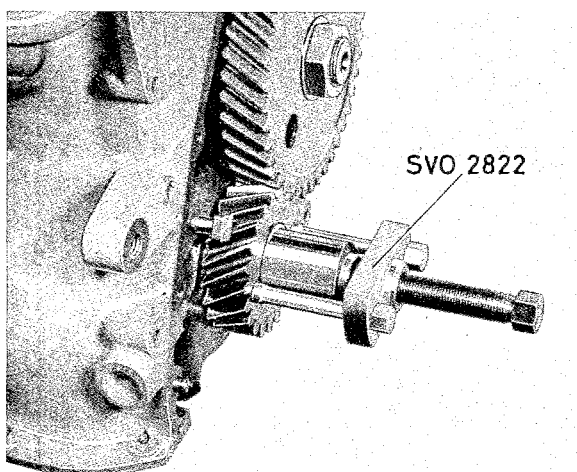

Fig. 2-32. Removing crankshaft gear
5. Pull off the crankshaft gear with puller 2822, see Fig. 2-32.